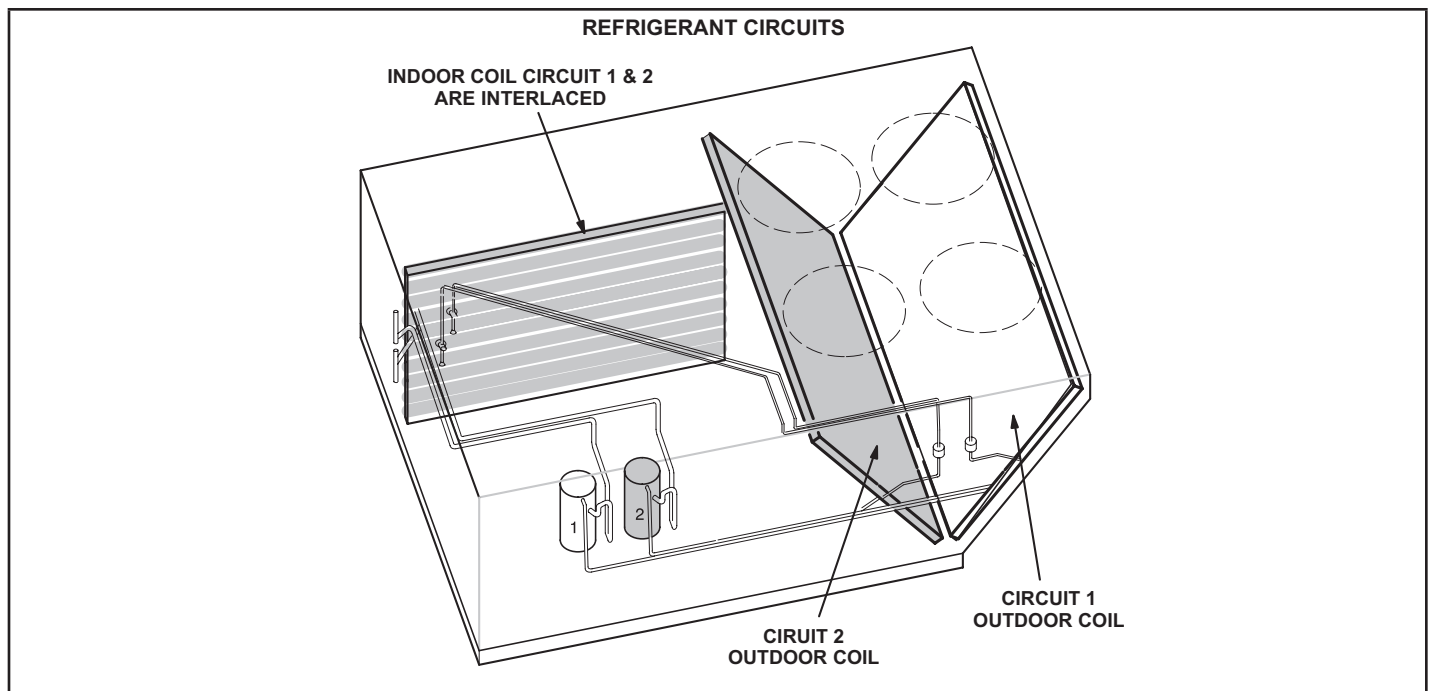

FIGURE 17
- 3 - Units contain two refrigerant circuits or systems. See FIGURE 17.